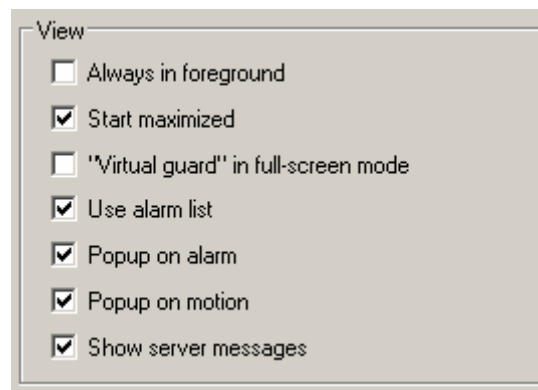

Fig. 193 "View" group field on the "System" tab
2. Mark the desired checkbox in the **View** group field (see Fig. 193).